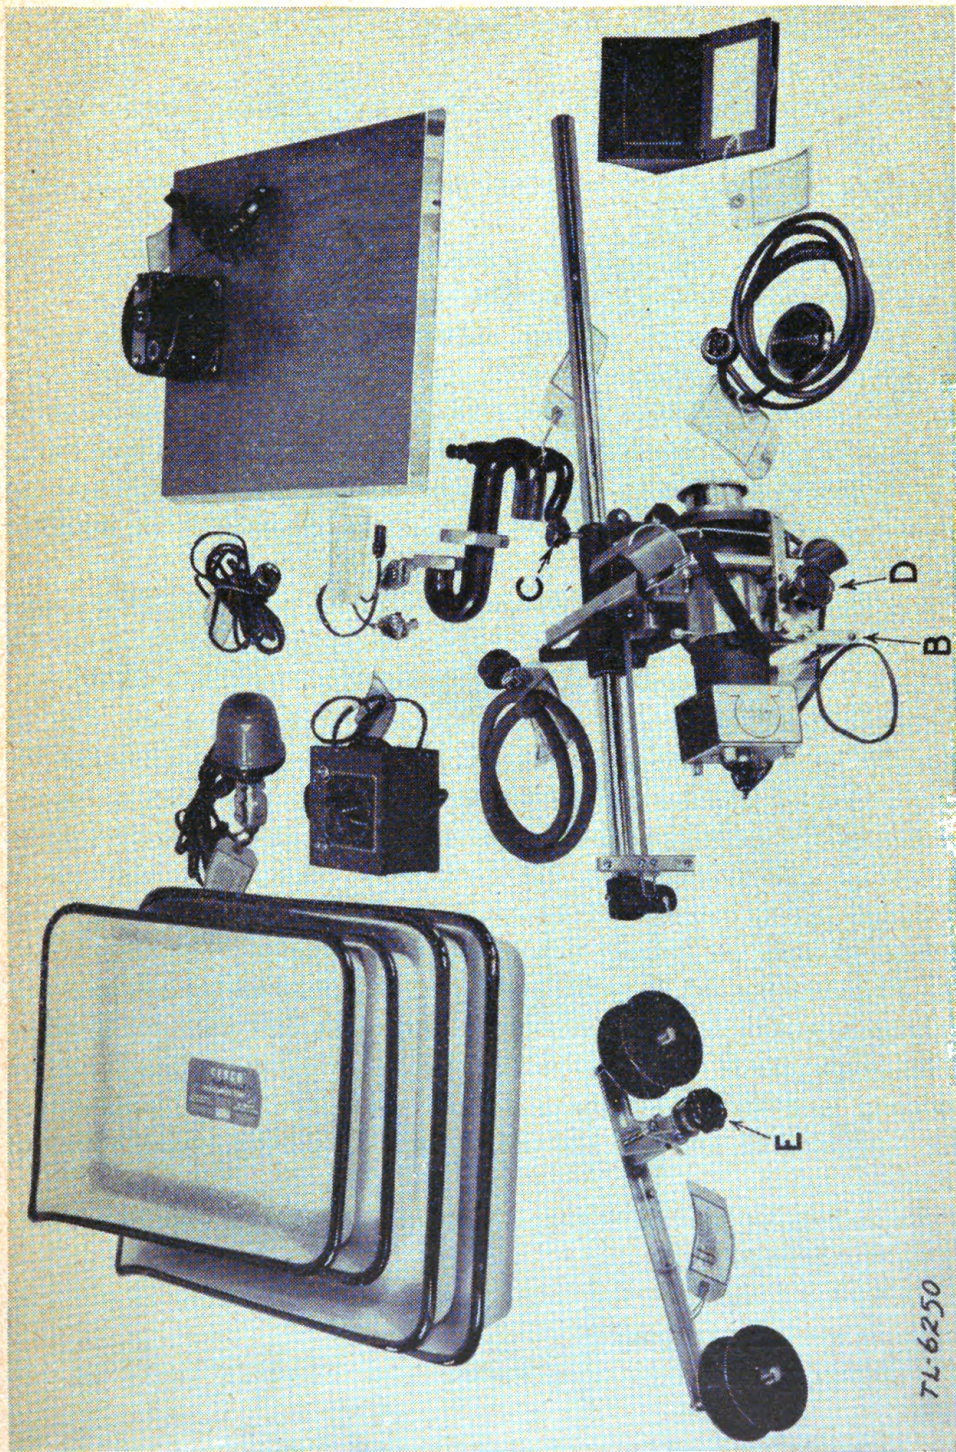
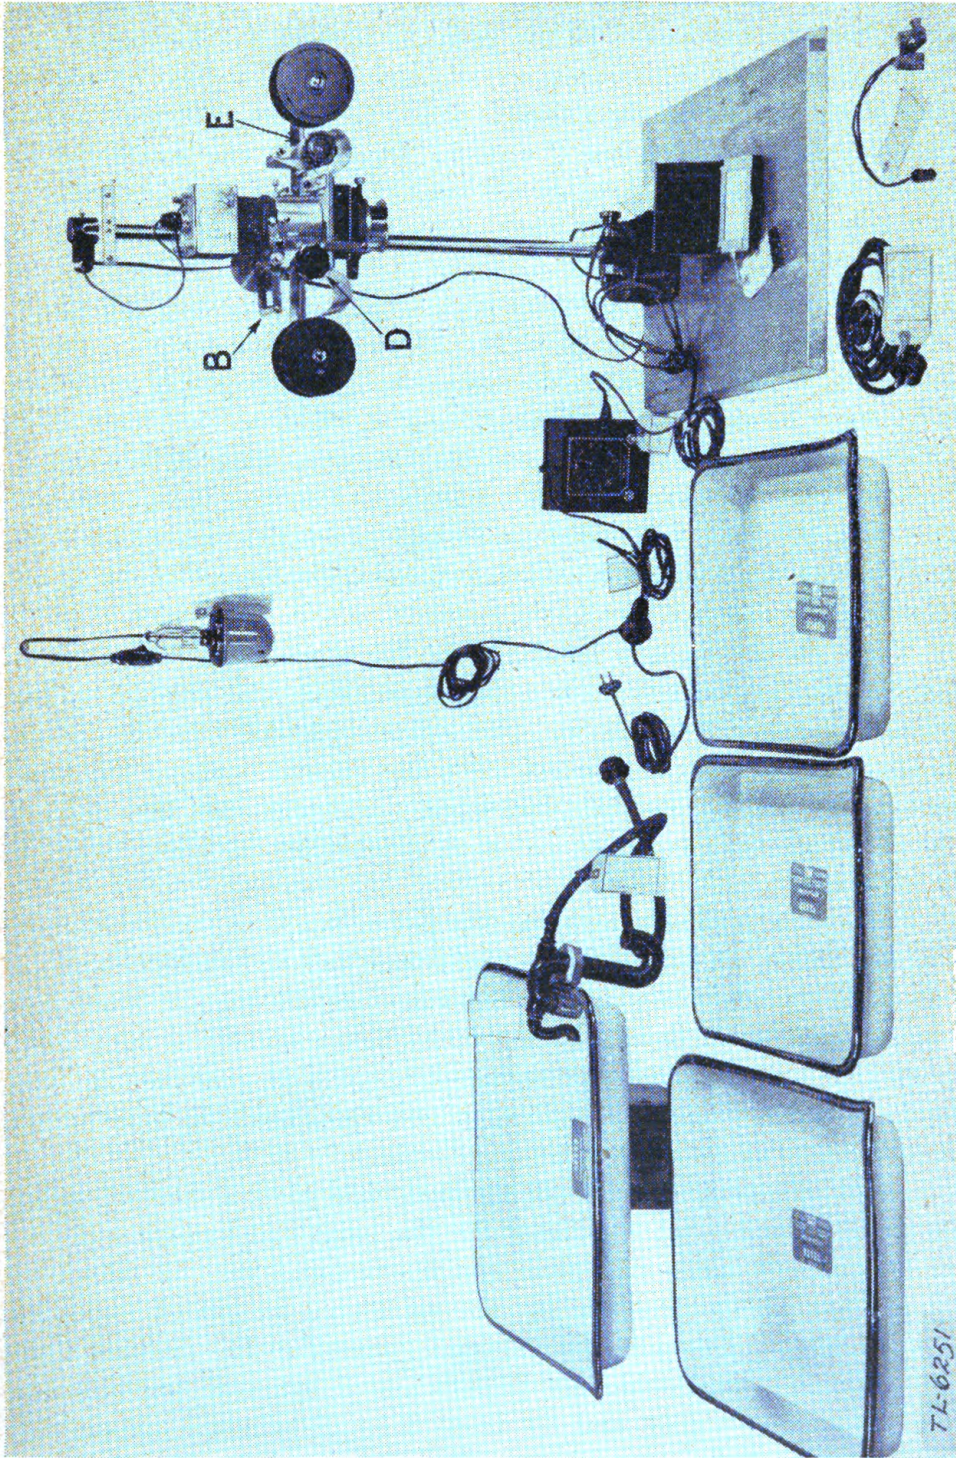

FIGURE 3.—Processing Equipment PH-395 removed from case.
FIGURE 4.—Processing Equipment PH-395 ready for use.
3. Printer.—This projection printer is used to enlarge prints from 35-mm negatives. It is of standard condenser design, and employs a 2-inch, f/4.5 anastigmat, enlarging lens. (See fig. 3.) The printer is mounted on a laminated baseboard, with a single girder bar sup-
(1) Place the baseboard in the approximate center of the workbench or table. (See fig. 3.)
(2) Insert the girder bar and the printer head assembly in the base socket, and tighten the bakelite knobbed set screw. Care must be exercised in aligning the printer head with the baseboard.
(3) If the microfilm attachment is to be used, loosen the knurled screws just behind the lamp house and slide the attachment frame under the screws. Tighten the screws to hold the attachment in position.
(4) Arrange the trays, timer, foot switch, and paper board (fig. 4) in the most convenient location. It is good practice to place the developer and fixer trays on opposite sides of the printer for easy identification in the dimly lit darkroom.
(5) Connect the siphon to the water source, and place it in position in the wash tray.
c. Composing the print.—Insert the negative in the film gate by pressing down the film gate release lever *B* (fig. 4), located just to the left of the lamp house. Turn the emulsion or dull side of the negative toward the lens. If the print is to include the entire area of the negative, the composing of the print is a matter of correct spacing of the image on the paper board. To accomplish this, loosen the bakelite knobbed setscrew *C* (fig. 3), located on the bottom of the printer-head bracket, and slide the entire printer head vertically along the guide bar until the correct image size is obtained. Open the lens wide; focus the lens by rotating the focusing knob *D* (fig. 3), located just to the left of the lamp house. Frequently it is not necessary to include the entire image of the negative in the print. In such instances, it is often possible to improve the composition of the print by local masking of the image.
(1) Open the lens wide and study the projected image for contrast. The degree of contrast will determine the contrast of the paper which should be used.
(2) Turn on the printer lamp; close the diaphragm of the lens until the image appears to have a brightness that will require an exposure of at least 10 seconds. The diaphragm has clicking stops which make it easier to determine when the desired opening has been reached. The ability to estimate when an image has the desired degree of brightness requires practice, but is an excellent way to judge exposures.
(3) Place a strip of test paper on the paper board in such a manner that it will cover an area of the negative which is uniform and of average density. Set the timer for exposures of 4, 8, 12, and 16 seconds and expose a strip for each period. If a storage battery is supplying power to the printer, the timer cannot be used and must be replaced by the foot switch. Exposure time, in this case, must be determined by use of a watch or some other timing device.
18. Use of microfilm attachment.—*a. General.*—If a number of prints of the same size are to be made from a reel of microfilm negatives, the microfilm attachment should be used. (See figs. 3, 4, and 5.) The installation of this attachment is outlined in paragraph 15*b*(4).
(1) Place the reel containing the negative strip on the shaft just to the right of the lamp house. Tighten the nut that holds the reel on the shaft.
(2) Insert the end of the film over the guide bar with the right hand. Turn knob *E* (fig. 4) clockwise with the left hand, making sure that the sprocket teeth engage the holes in the film. Rotate the knob until the film approaches the film gate.
(3) Press down the gate release lever *B* (fig. 4) when the film reaches the film gate, and lead the negative into the gate. Turn knob *E* until the desired negative is centered in the film gate.
(4) Loosen the small knurled screw on the collar located immediately behind knob *E* and rotate the collar until the ratchet engages. Tighten the knurled screw.
(5) Expose the paper according to instructions in paragraph 17.
(6) To project the next negative, press down on the film gate release lever and rotate knob *E* clockwise until the ratchet stops movement. The next negative will then be automatically centered in the film gate and may be printed.
(7) When the negatives project through the film gate, wind clockwise on the reel just to the left of the lamp house.
b. Printer head base.—The printer head base is a casting designed to slide vertically along the girder bar support. The base provides a lens mount, film gate, and screws for fastening the microfilm attachment. The adjustment knob *D* (fig. 3) moves the lens vertically for focusing. This knob turns a shaft, which in turn operates a lever arrangement through a gear reduction, thus providing a micrometer focusing adjustment for the lens. A positive-lock setscrew for clamping the printer head in any desired position is located near the bottom of the base casting. The film gate is of pressed steel construction, and is equipped with internal springs that automatically open the gate when the release lever is operated. The operation of this lever relieves the gate of the weight of the lamp house and permits easy insertion of the negative. The weight of the printer head is counterbalanced by a spring loaded reel mounted on the printer head base, with the end of the tape fastened to the top of the girder bar. As a result of this arrangement, a minimum effort is required on the part of the operator in moving the printer head for print size selection. A red filter for use with bromide papers is mounted just below the lens on a swivel mount.
then tightened, completing the adjustment of the attachment. To advance the film one frame, press down on the film gate release lever *B* (fig. 4) and rotate the operating knob one revolution. Stop when the ratchet engages.